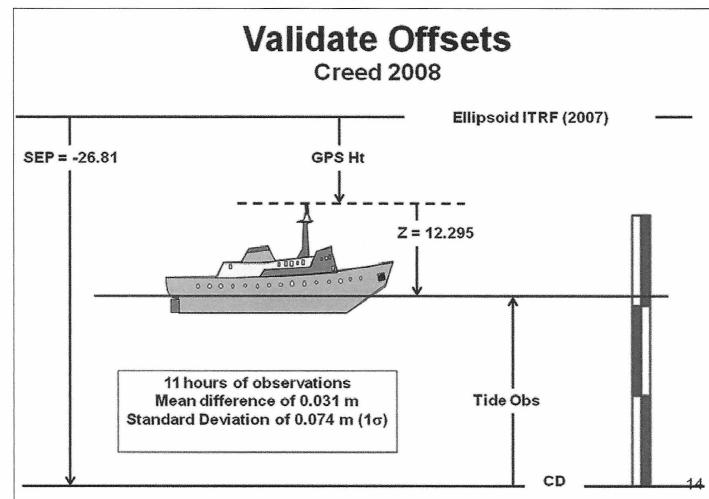
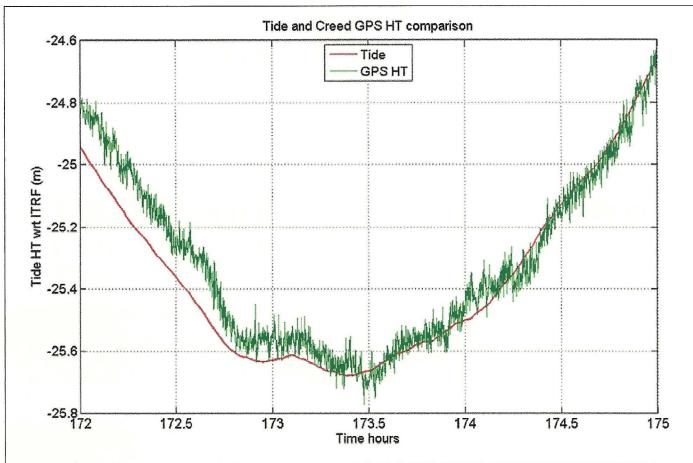

Figure 1: Creed 2008 Vertical Offset Diagram
Figure 2: Creed and Saint John Gauge Comparison. Mean = 0.031m, standard deviation = 0.074m ( $1\sigma$ )
- Develop vertical offset diagram showing (Figure 1)
- Update Vessel Configuration File (VCF) inserting Navigation offsets between antenna and Reference Point (RP) for depth reference [Water Level (WL) at Transducer]
3. Compare GPS WL to SJ Tide Gauge using Matlab routine (Figure 2)